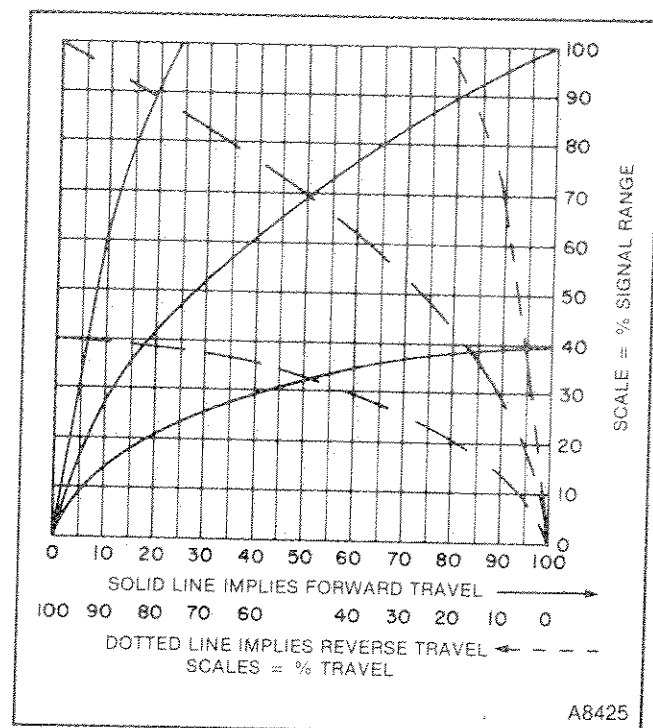

FIGURE 5 — Cam A, Square Root Relation
The control characteristics for which the cams are shaped are listed in Table 4 and are shown in Figures 5, 6, and 7. The figures show a family of curves for each cam whose boundaries are established by a range adjustment. Table 5 lists control signal pressures of specific AP4 Positioners which corresponds to the signal range percent values in Figures 5, 6, and 7.
4. Compare the curve plotted in Step 3 with the cam curves shown in Figures 5, 6, and 7. Select a standard cam shape (in this case a C cam) whose characteristic most closely matches the control signal pressure versus piston (or valve) characteristics plotted in Step 3.
NOTE: Before cutting any cam, make sure that shaping will involve REMOVE OF CAM MATERIAL and not building up of cam material. For example, if the characteristic plotted lies between the A and B cams (Figure 5 and 6), cut the A cam.